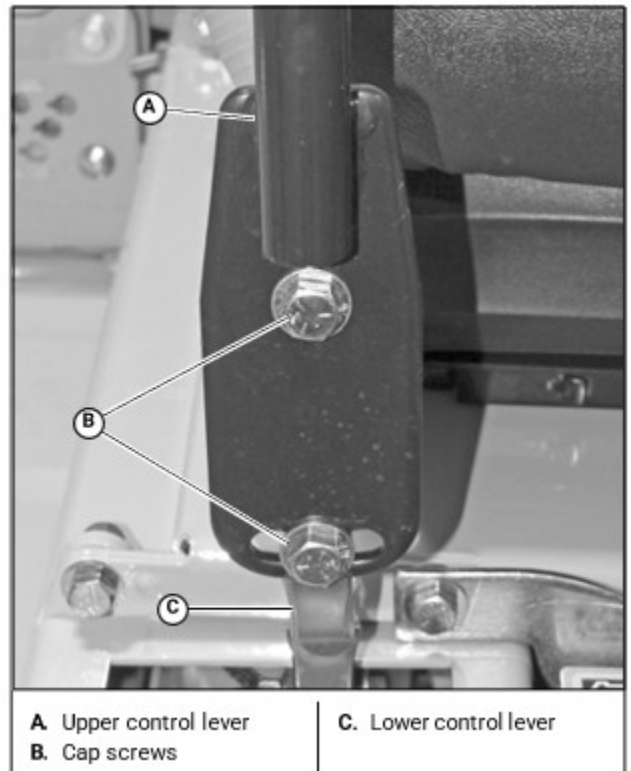

Figure 8
1. By loosening the cap screws that attach the upper steering control lever to the lower steering control lever the upper steering control lever can be pivoted to fit the operator's personal preference. [Figure 8]